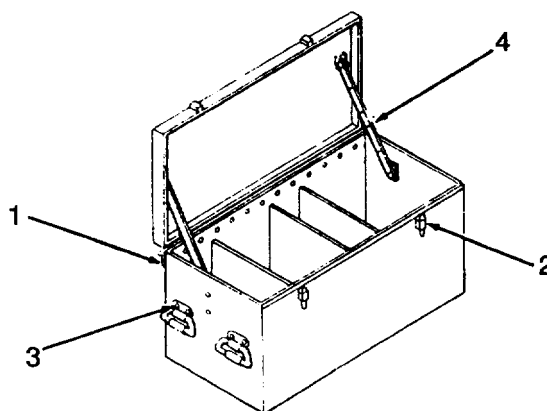

Figure 3-1. Chest Assemblies, Lubrication.
a. **Chest Assemblies.** (Figure 3-1)
- (1) Apply a coat of general purpose oil to hinge (1).
- (2) Apply a coat of general purpose oil to latches (2).
- (3) Apply a coat of general purpose oil to pivot points of handles (3).
- (4) Apply a coat of general purpose oil to lid supports (4).